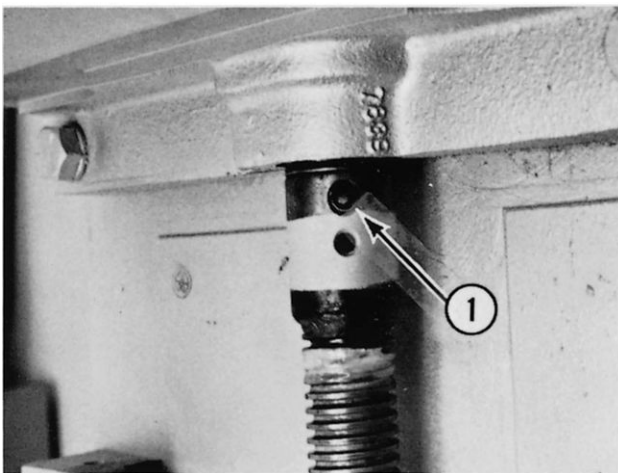

Fig. 12-7
- C. Drive out the spirol pin (1, Fig. 12-7) on the bowl lift screw.